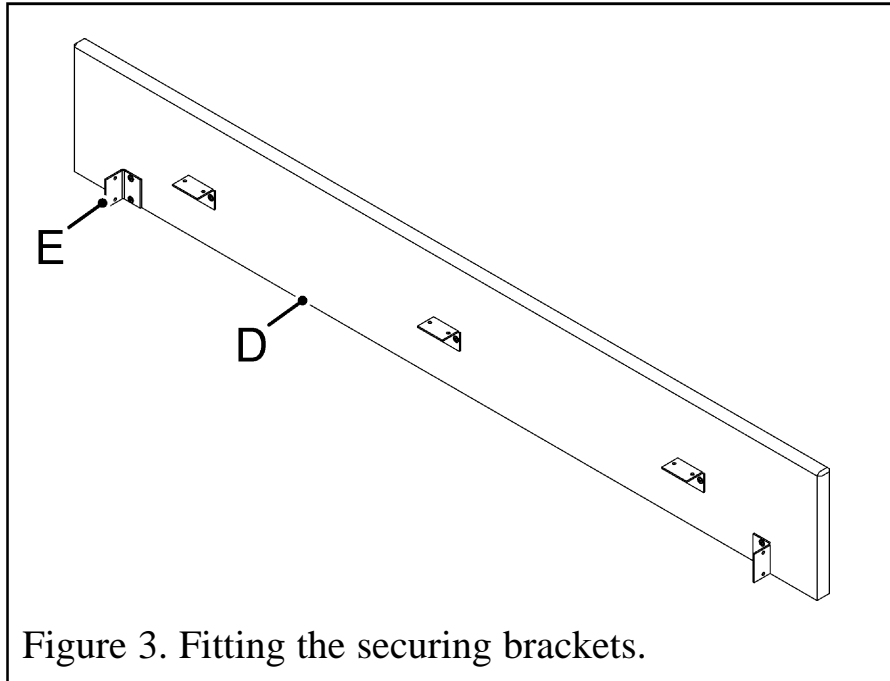

Figure 3. Fitting the securing brackets.
There are pilot holes in the underneath of the top (D). Position the securing brackets (E) as in figure 3 so that pilot holes in the top are in line with those of the brackets. Secure in place using ten screws (F).